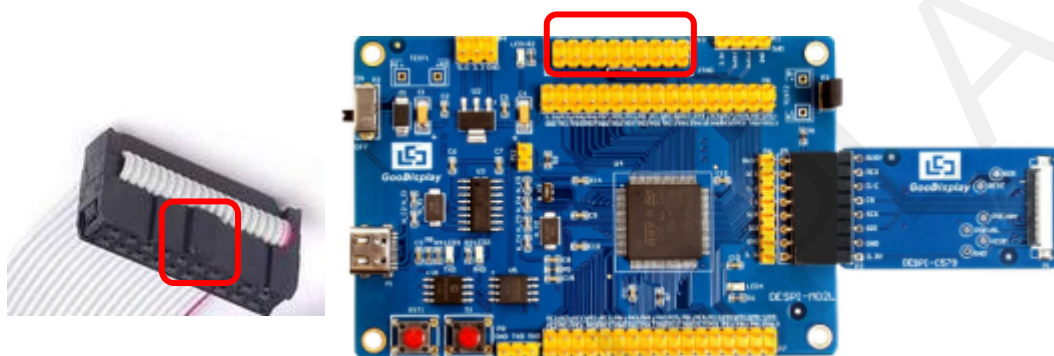

Figure 5 : Connection between JTAG and simulator
- 1) Connect the simulator to DESPI-M02's JTAG interface ( align the raised part of the figure 5 simulator interface to the notch direction of the JTAG interface ) and connect the computer USB port at the other end.